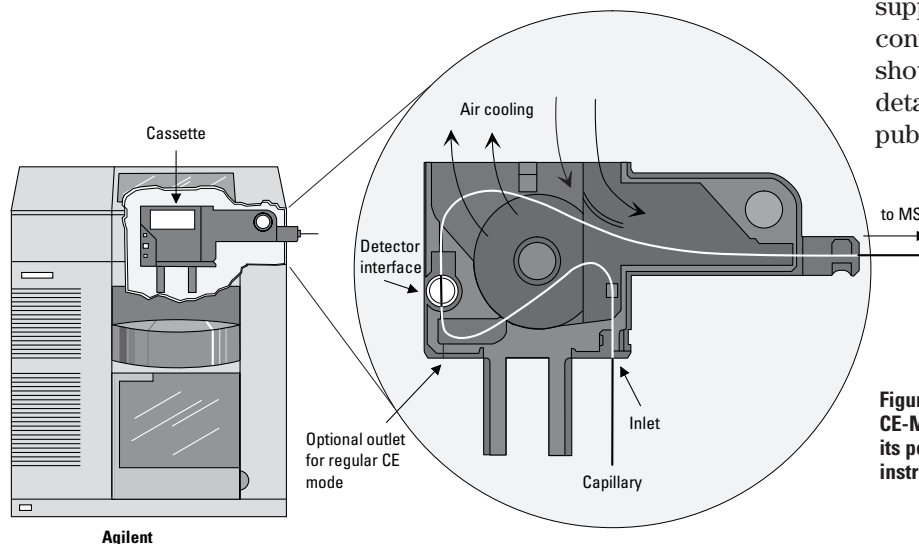

Figure 29
- capillary cassette designed to allow thermostating of the capillary throughout its position within the instrument (figure 29),